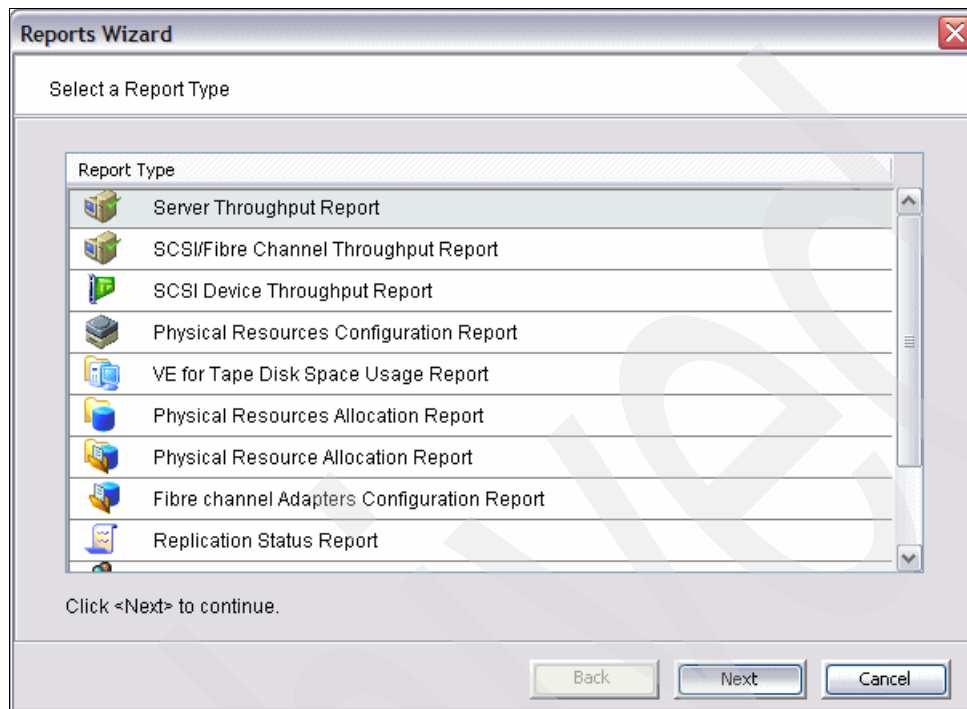

Figure 7-2 Selecting report type
2. You are presented a panel with possible report types. Choose one of them by selecting it and click **Next**. For this example, we selected **Server Throughput Report**, which shows the throughput of the entire IBM Virtualization Engine TS7510. The selection is shown in Figure 7-2.